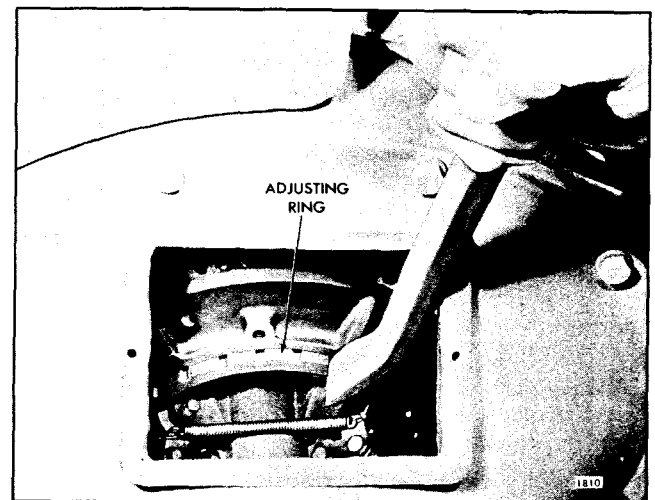
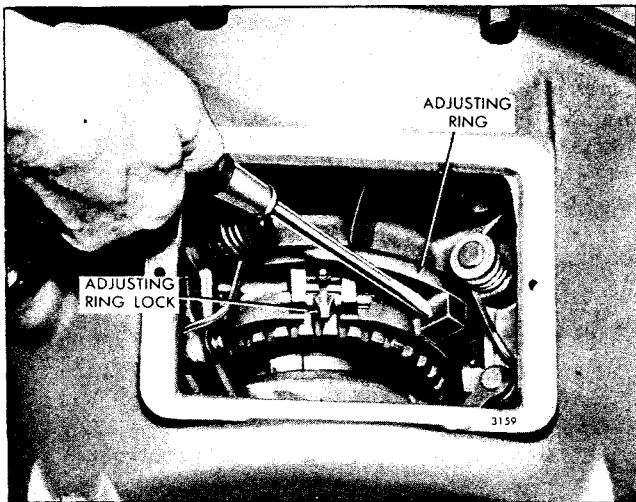
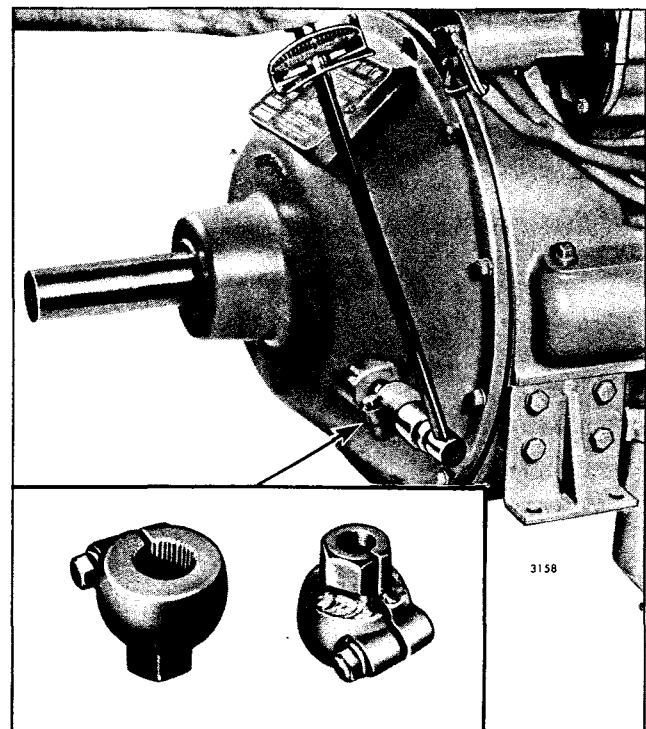

Fig. 7 - Power Take-Off Showing Typical 8" and 11-1/2" Diameter Clutch Adjustment Ring
Fig. 8 - Power Take-Off Assembly Showing
Fig. 9 - Power Take-Off Clutch Adjustment
4. On the 8" and 11-1/2" diameter clutches, remove the clutch adjusting ring spring lock screw and lock from the inner clutch pressure plate and adjusting ring. Then, while holding the clutch drive shaft to prevent the clutch from turning, turn the clutch adjusting ring counterclockwise as shown in Fig. 7 and tighten the clutch until the desired pressure on the outer end of the hand lever, or at the clutch release shaft (Fig. 9) is obtained, as shown in the table.
5. On the 14" diameter single and double plate clutches, raise the end of the adjusting ring lock up out of the splined groove in the hub of the outer clutch pressure plate. Then, while holding the clutch drive shaft to prevent the clutch from turning, turn the clutch adjusting ring clockwise as shown in Fig. 8 and tighten the clutch until the desired pressure on the outer end of the hand lever, or at the clutch release shaft (Fig. 9), is obtained as shown in the table.
However, a more accurate method of checking the clutch adjustment is with a torque wrench as shown in Fig. 9.
To fabricate an adaptor, saw the serrated end off of a clutch hand lever and weld a 1-1/8" nut (across the hex) on it as shown in Fig. 9. Then saw a slot through the nut.